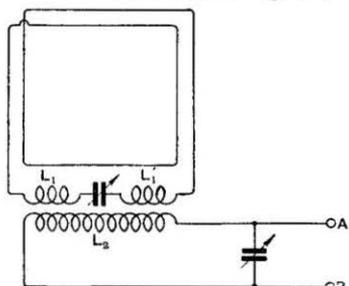
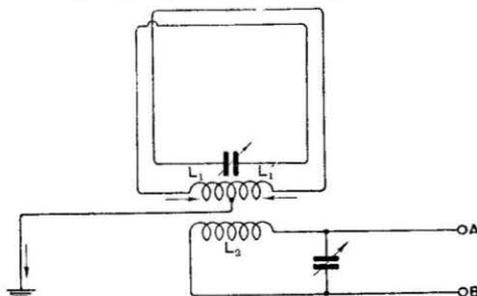

Fig. 10. Rotating frame with coupled circuit.
Fig. 11. Centre point of frame coupling coil connected to earth to reduce effect of vertical.
*Fine adjustment.*—This is detailed in Fig. 10. It consists of a strip of copper foil covered with a thin piece of mica.
Fig. 10 shows the addition of a coupled circuit and vertical will again be present, but to a much smaller extent. The E.M.F.s in the side members of the frame will now tend to force currents to earth through the capacity of the coupling coils  $L_1$  and  $L_1$ , and these currents on reaching  $L_2$  will divide and flow to earth *via* the A and B paths as before, in the inverse ratio of their impedances, and may be corrected by a grid condenser. If, however, the tuning condenser be put in the middle of the frame winding farthest from the coupling coil  $L_1$ , then the mid-point of this coupling can be joined direct to earth as in Fig. 11, and this